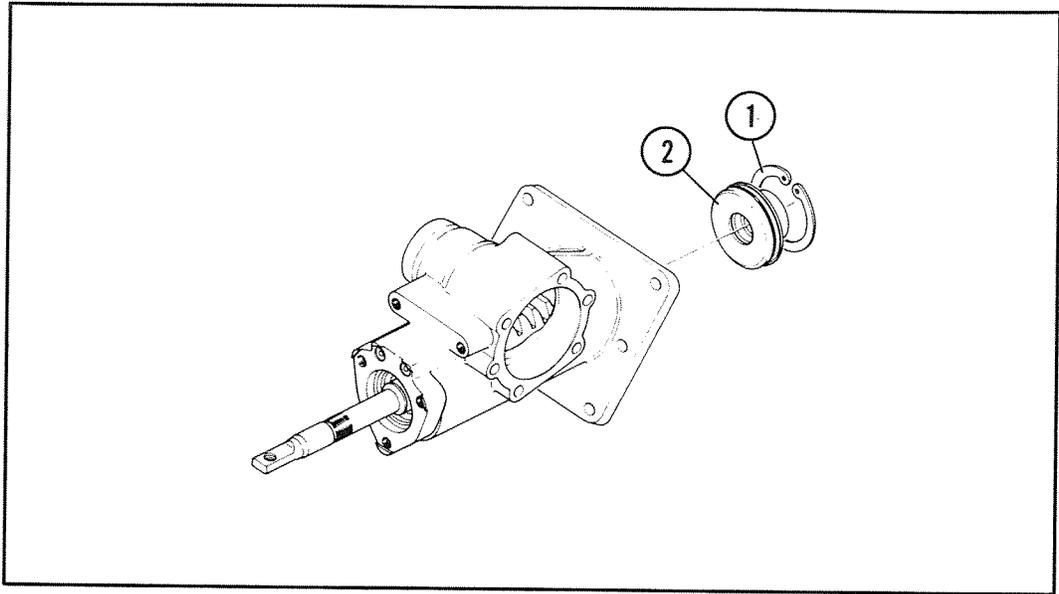

Figure 36
12. Remove the snap ring (1) and remove the front cover (2), Figure 36.